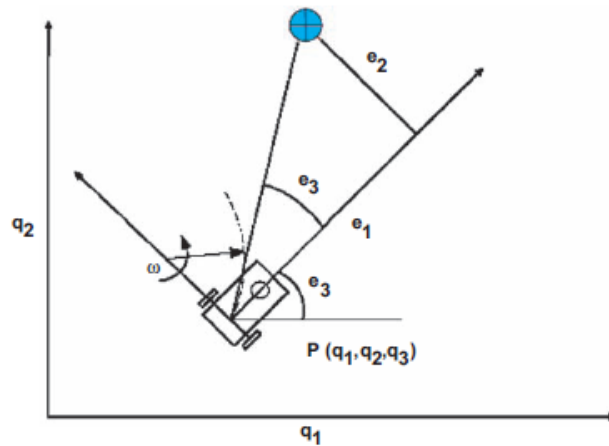

Figure Q3[b]
- [b] **Figure Q3[b] shows a relevant variables for Unicycle WMR type model. Based on this variables, construct the kinematic model equation.**